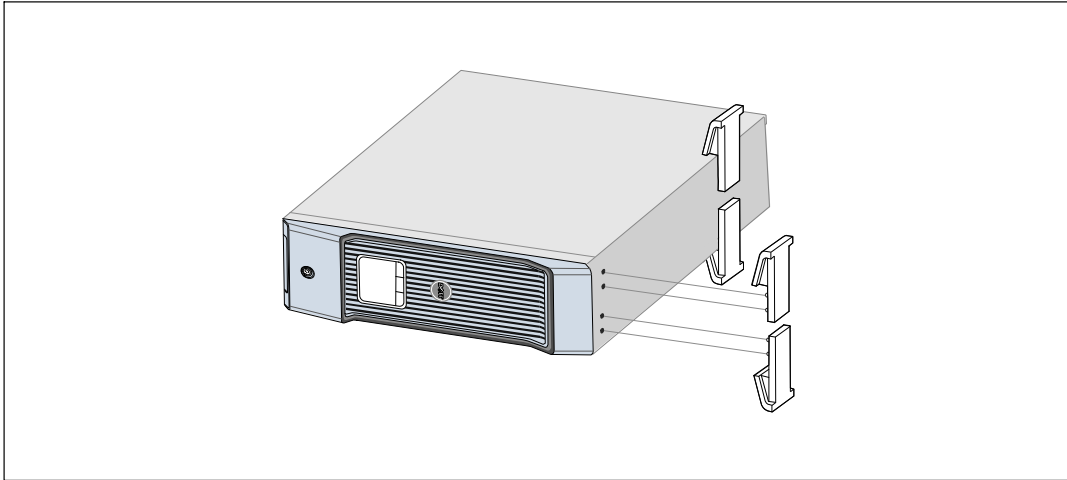

Figure 24. Installing the Pedestals
- 7 Place the cabinet horizontally so that the right end of the cabinet is accessible (see Figure 24).